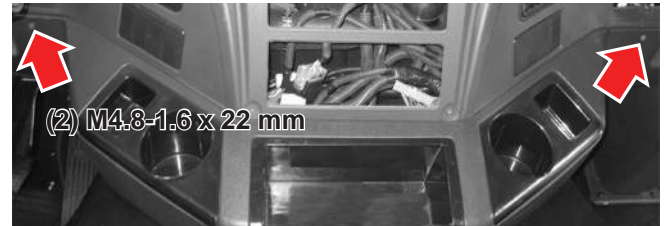

Figure 5-1
1. Remove the cup holders on either side of the lower instrument panel skirt and set aside for reinstallation (see *Figure 5-1*).